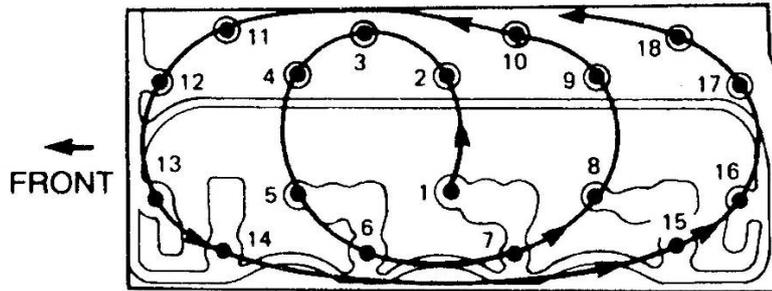

Figure 26 Cylinder Head Bolts - Tightening Sequence
- k. Torque the cylinder head bolts in the sequence shown in Figure 26 in three steps:
- (1) 68.7 N.m (51 lbf.ft);
- (2) 88.3 N.m (65 lbf.ft); and
- (3) torque the bolt through a further 30 degrees.